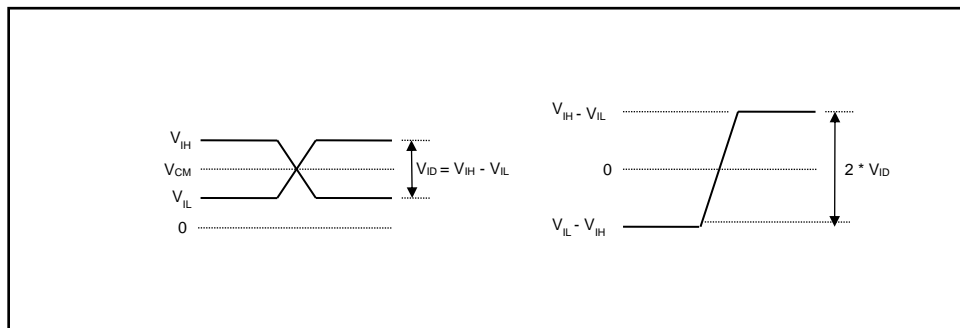

Figure 41. Differential Input Voltage Levels
**Input differential voltage is calculated as $V_{ID} = V_{IH} - V_{IL}$ where V_{IH} and V_{IL} are input voltage high and low respectively. It should not be confused with $V_{ID} = 2 * (V_{IH} - V_{IL})$ used in some datasheets. Please refer to Figure 41.